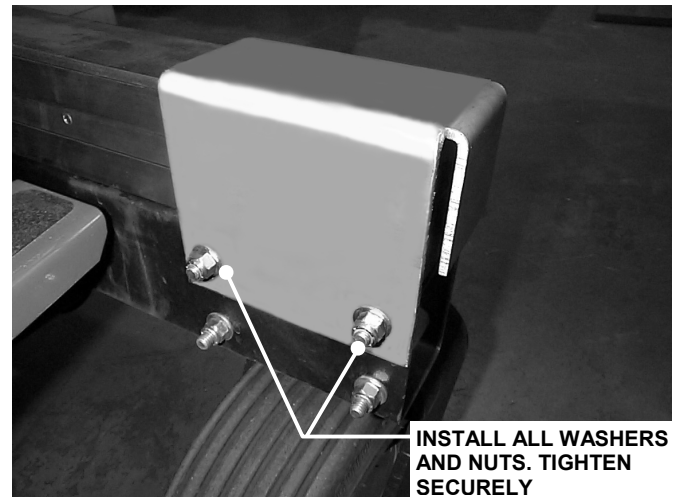

FIGURE 1.5B
C. Install all four flat washers and top nuts and tighten securely. See Figure 1.5B.